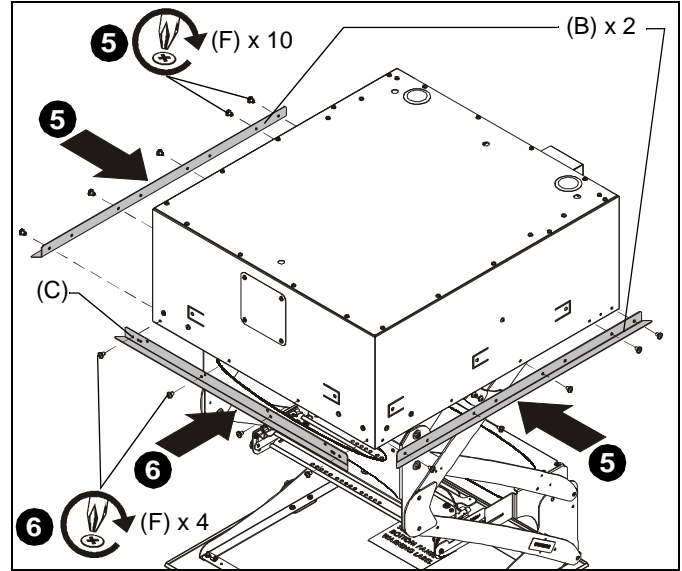

Figure 3
5. Place side trim pieces (B) on sides and secure in place with ten 6-20 x 3/16" Phillips tapping screws (F). (See Figure 3)
6. Place one end trim piece (C) on front and secure in place with four 6-20 x 3/16" Phillips tapping screws (F). (See Figure 3)